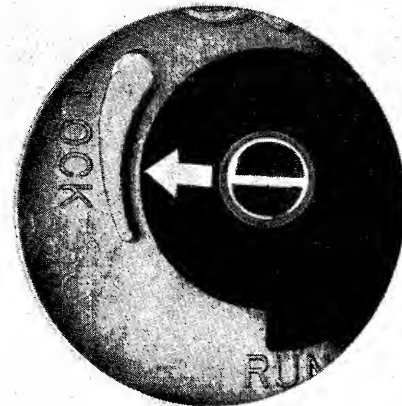

FIGURE 2-3
- 8) Unlock the actuator by rotating the actuator lock counter clockwise as far as it will go (approximately 1/2 turn). The embossed arrow will now point to RUN (see Figure 2-3.) **DO NOT FORCE.**